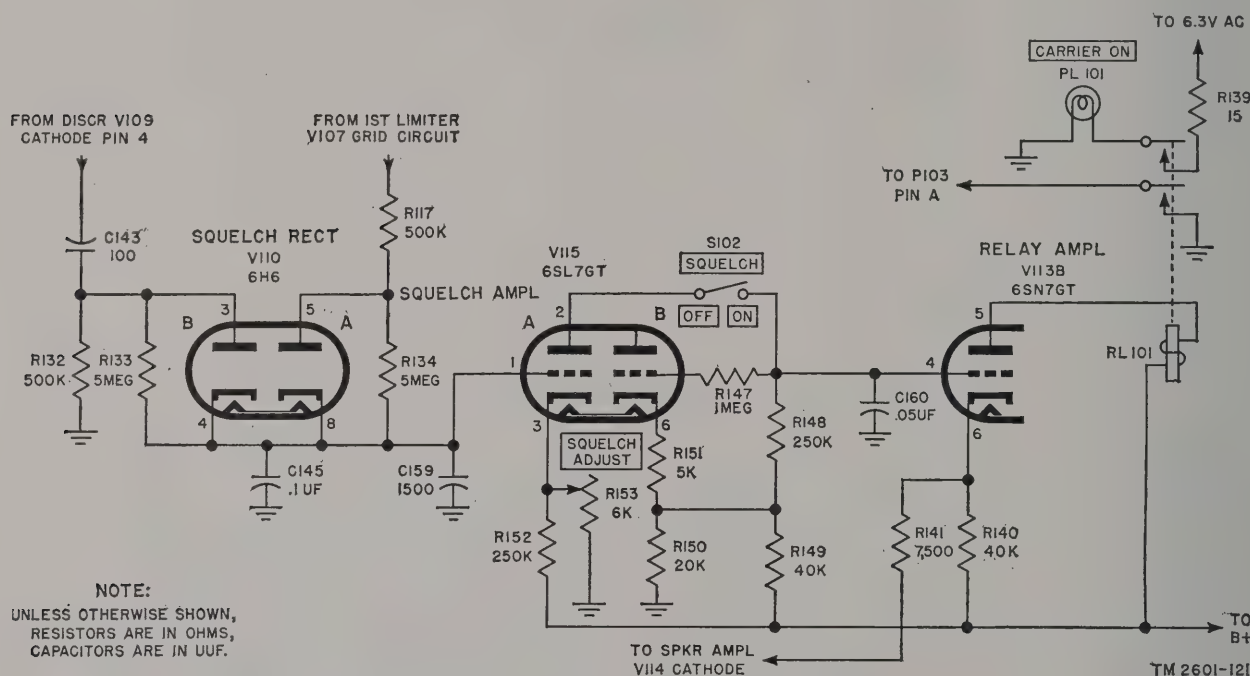

Figure 146. Squelch and carrier-operated relay circuits of unlettered model.
a. SQUELCH CIRCUIT. The squelch and carrier-operated relay circuits of the unlettered model are shown in the functional diagram in figure 146.
- (1) The first triode section of a type 6SL7GT tube (V115A) is used to disable first a-f amplifier tube V115B when no carrier is being received. The actuating voltages for the squelch circuit are obtained from two sources. One is the rectified grid current in the first limiter stage, the value of which is dependent on signal strength or noise level. The other is the high-frequency audio component present in the output of the discriminator. This component is dependent only on the signal-to-noise ratio.